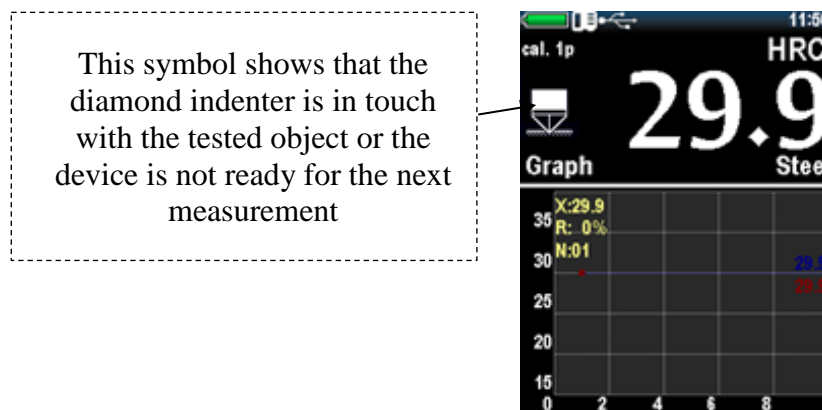

Figure 2.10 – The display after measurement
9. The display shows the value of hardness (Figure 2.10). The measurement result is displayed on the display until the next measurement.